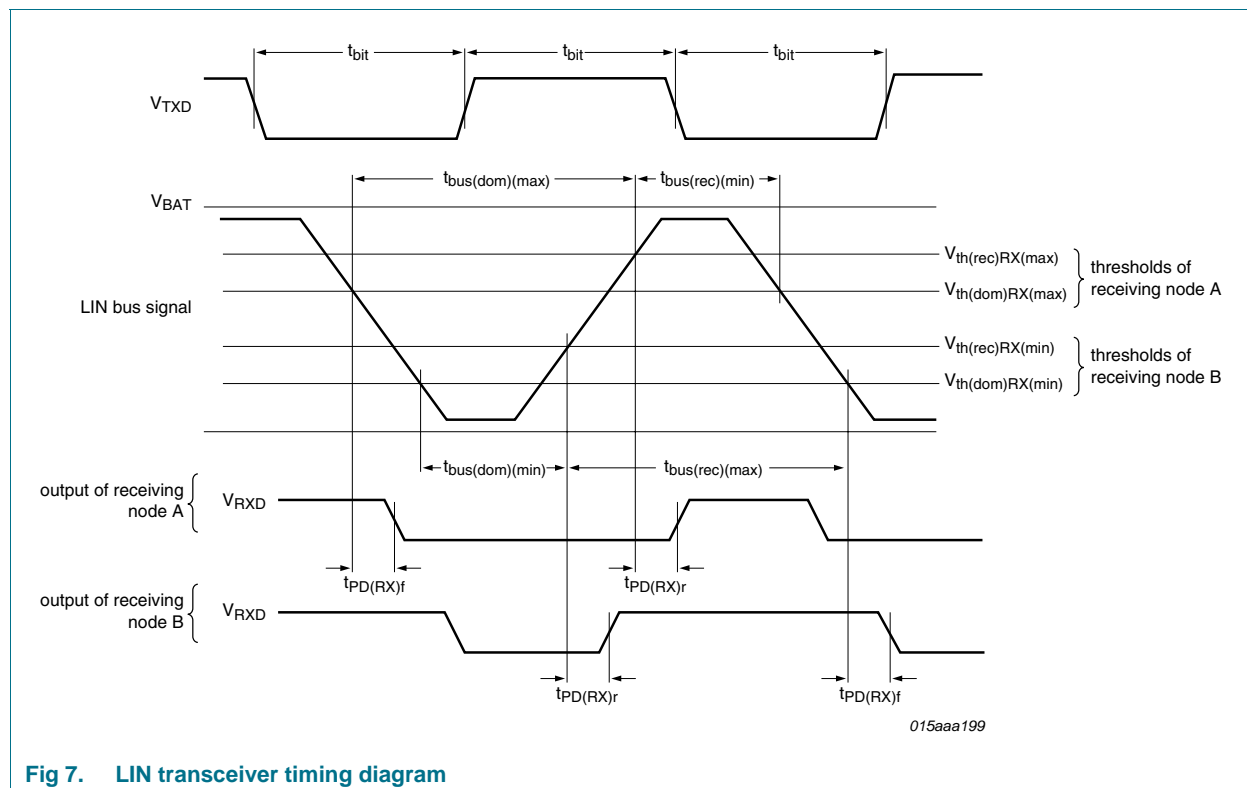

Fig 7. LIN transceiver timing diagram
[2] See Figure 7.
- [3] $\delta 1, \delta 3 = \frac{t_{bus(rec)(min)}}{2 \times t_{bit}}$. Variable $t_{bus(rec)(min)}$ is illustrated in the LIN timing diagram in Figure 7.
- [6] $\delta 2, \delta 4 = \frac{t_{bus(rec)(max)}}{2 \times t_{bit}}$. Variable $t_{bus(rec)(max)}$ is illustrated in the LIN timing diagram in Figure 7.